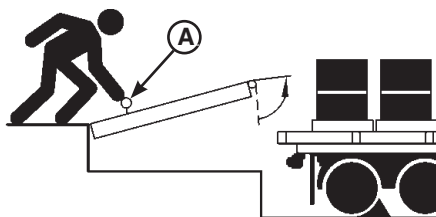

Figure 17
5. Pull and hold the platform release ring (A) until the platform is at the fully raised position (Figure 17).
8. When loading or unloading is finished, raise the platform to the fully raised position by pulling and holding the platform release ring (A) (Figure 17). Slowly walk the platform down, allowing enough time for the lip to fold. The platform will lower to the cross-traffic position (lip engages in the lip keepers).